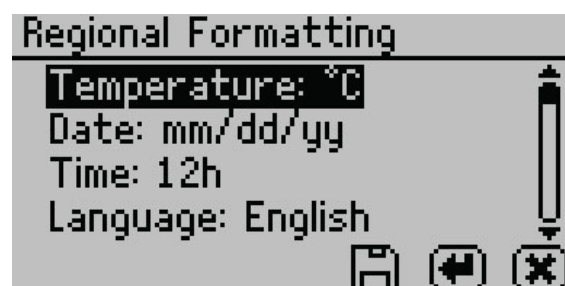

Figure 35 Regional Formatting option
- **Regional Formatting.** Select to configure how the AQUALAB TDL displays information (Figure 35). Choose the temperature scale (Celsius or Fahrenheit), the date display (mm/dd/yy or dd/mm/yy), the hour format (12 or 24 h), and the language.